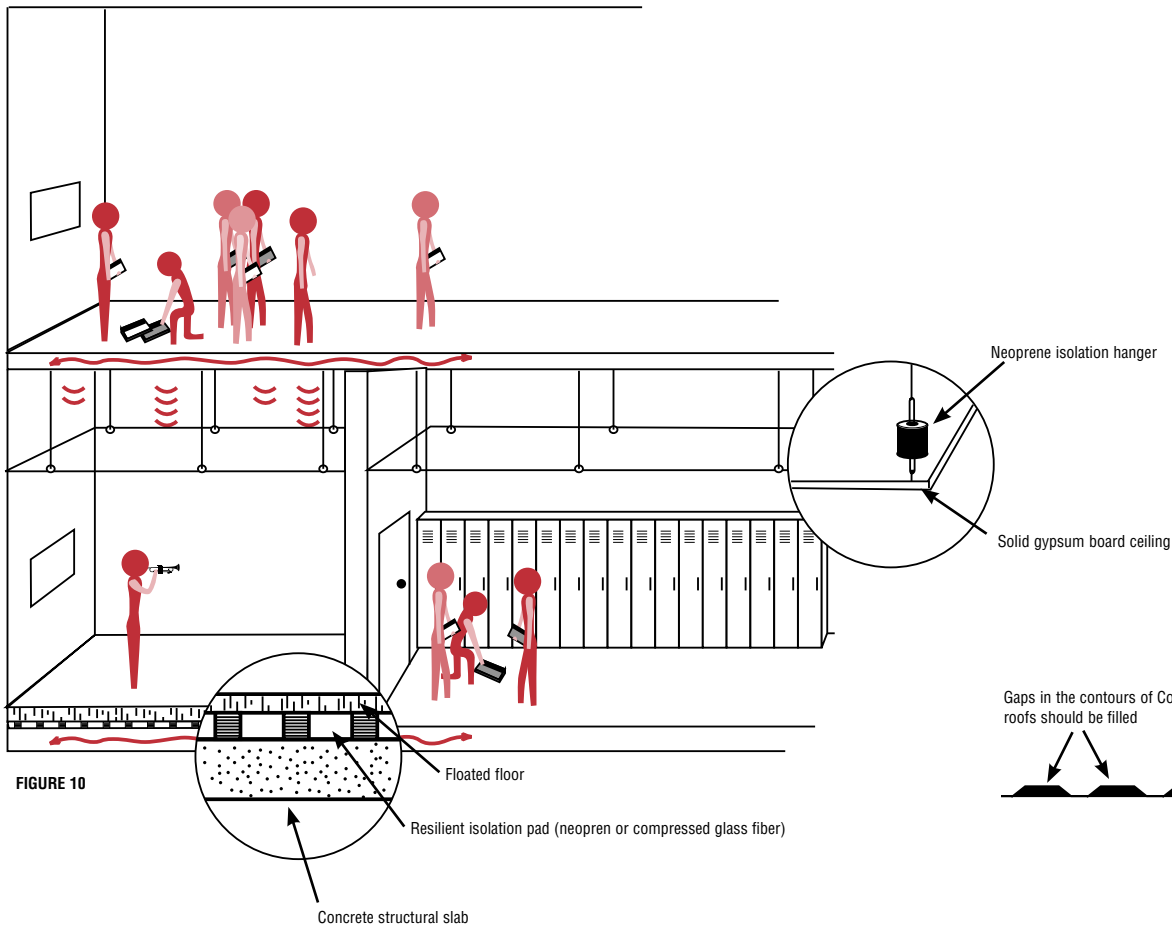

FIGURE 10
- If you suspect your ceiling does not have enough mass and you are hearing noise like airplanes or rain, add a suspended sound-isolating ceiling supported by acoustical hangers (figure 10) to increase the overhead sound isolation. Bring in an acoustician to evaluate your situation.
- If you are experiencing sound transmission coming into your room from the floor, you may need to consider installing a floated floor (figure 10). Again, this is an expensive and complex solution that will require the input of an acoustician or architect.